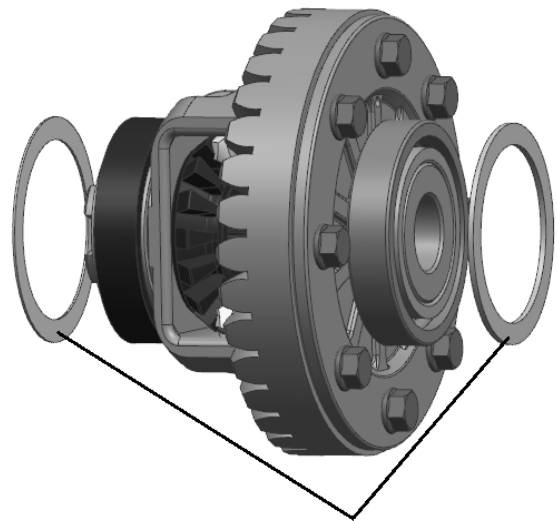

Fig 6
7.Remove the shims from the differential assembly. Be sure to keep the shims together for reassembly. →Fig 6